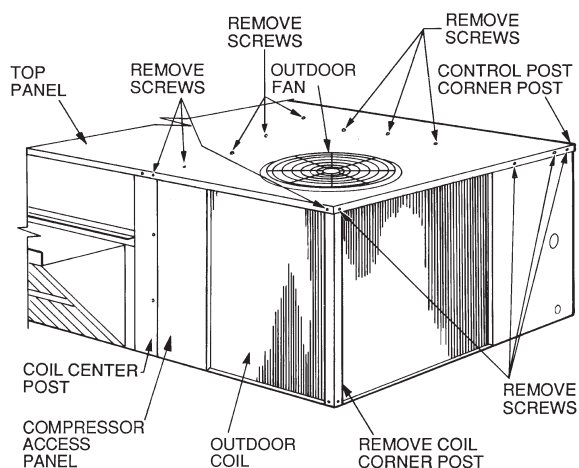
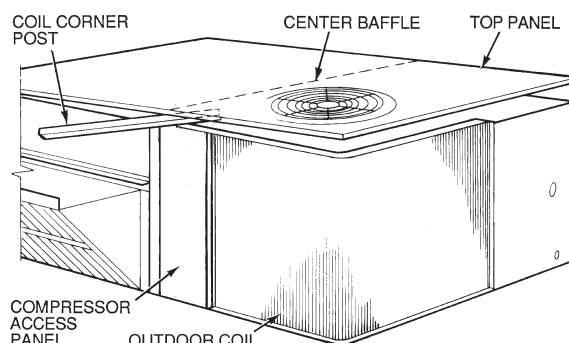

Fig. 10 — Cleaning Condenser Coil
Fig. 11 — Propping Up Top Panel
3. Remove condenser coil corner post. (See Fig. 10.) To hold top panel open, place coil corner post between top panel and center post. (See Fig. 11.)